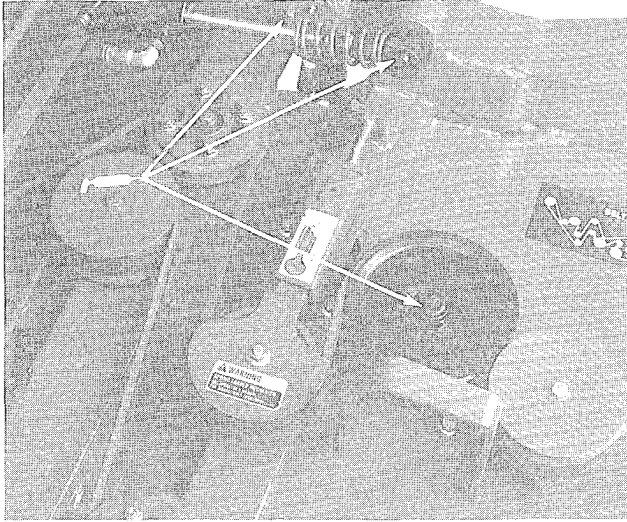
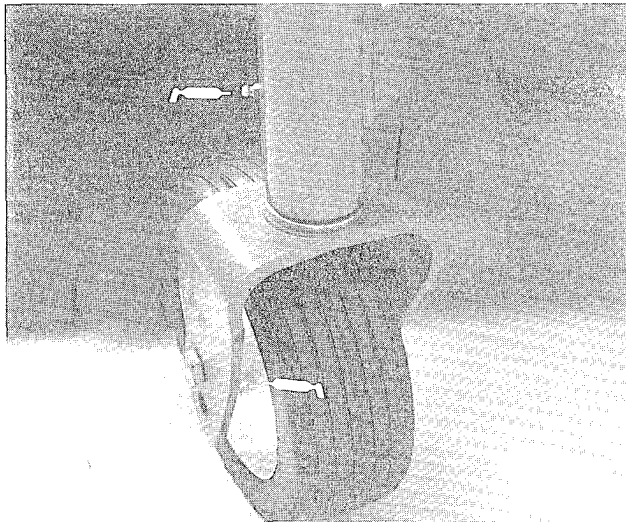
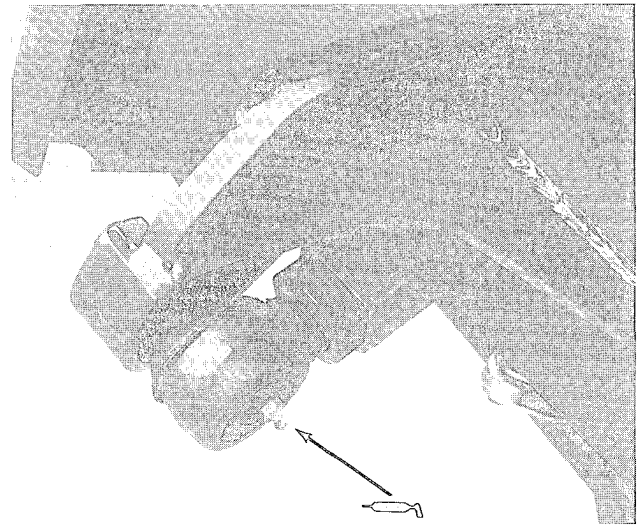
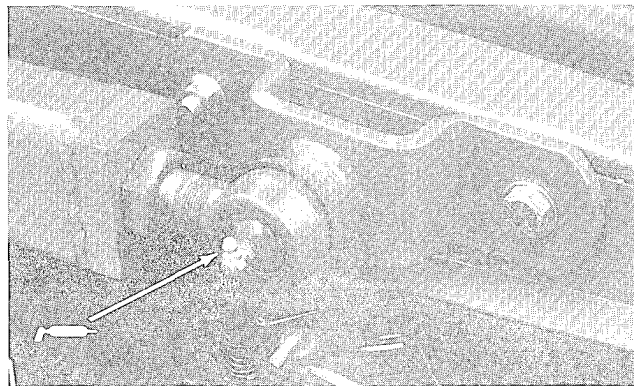

Figure 31
Figure 32
Figure 34
Figure 35
Cutting deck (2 & 4 wheel drive machines) – blade spindles (7), lift cylinder ball joints (4) and Wing Deck Pivot pins (4) (Fig. 31); Castor Wheels, if equipped with grease fittings (6); Castor fork shaft (4) (Fig. 32); PTO to gear box drive shaft assembly (3) (Fig. 34); Wing Deck Ball Joints (4) (Fig. 34) and Lift arm ball joints (2) (Fig. 35).